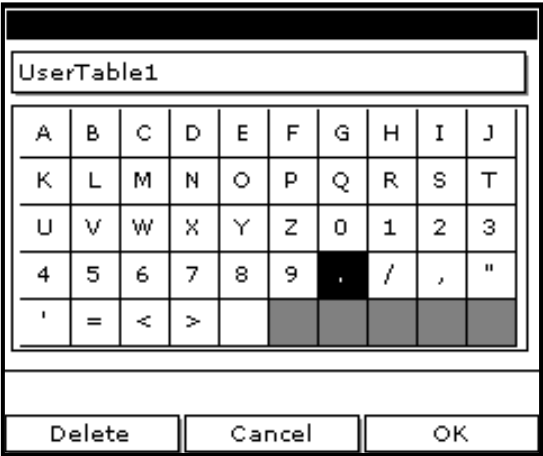

Figure 28: Text Creation Window
- 3. Use the arrow keys to move to the Table ID box and press **[ENTER]**. A screen similar to *Figure 28* appears.